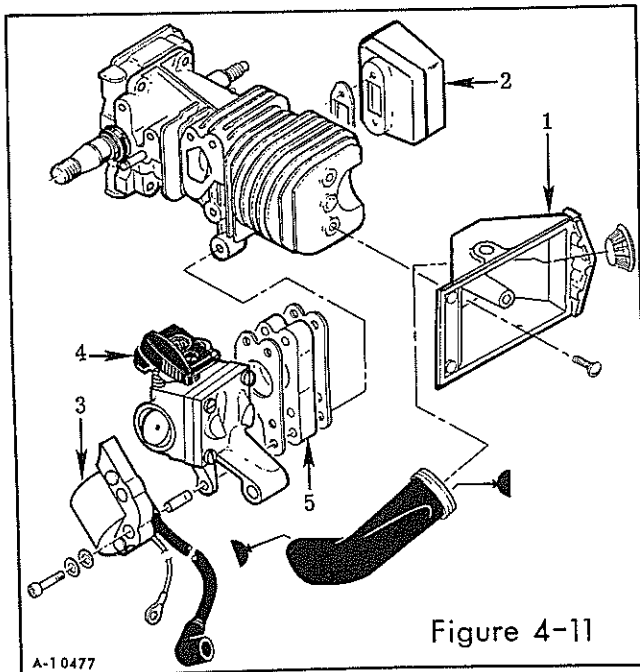

Figure 4-11
For a complete teardown of the powerhead, the air filter housing (1, Figure 4-11), muffler (2), coil and lamination assembly (3), carburetor (4) and carburetor insulator (5) should also be removed.